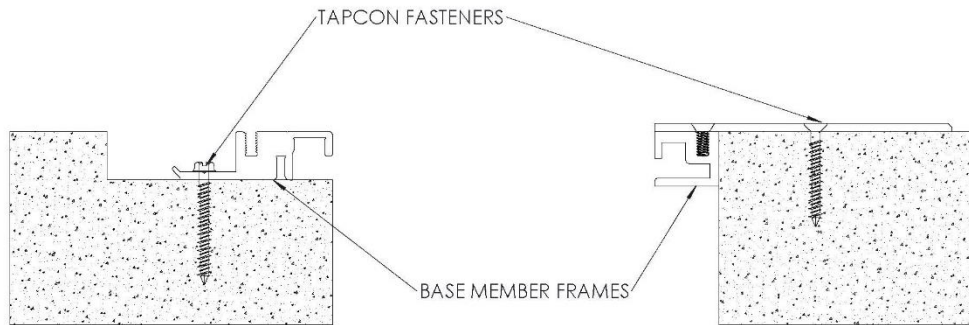

FIGURE 2
2. Position appropriate base member frame in blockout and position other base member frame on the non-blockout side per shop drawings. Using the frames as a template, mark and drill 3/16" holes for Tapcon fasteners. Install base member frames to the blockout opening and non-blockout side with fasteners, making sure not to over tighten. *Note: In the 2" size the base frame on the non-blockout side is shaped differently than what is shown in Figure 2, see shop drawing for clarification. See Figure 2*